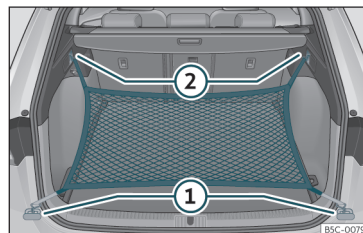

Fig. 117 In the luggage compartment: rings ① and hooks ② for attaching the net bag.
- Secure the short net hooks to the fastening rings»» Fig. 117 ① »» ⚠. The bag zip should be facing upwards.
- Secure the straps in the bag hooks ②.